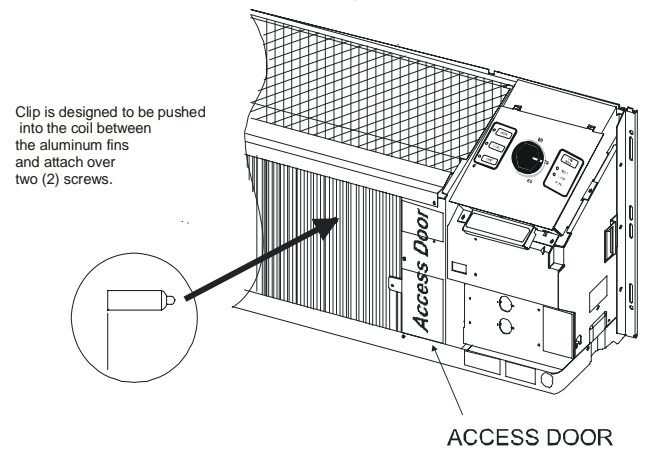
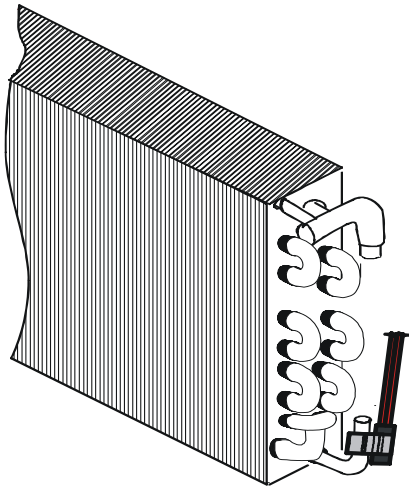

Figure 6
Figure 7
B. If the existing **Indoor Ambient Thermistor** (with the **BLACK** wires) was connected to the board by a plug-on connector, reconnect it to the new board on the **IAT** (black) terminals. If the existing Indoor Coil Thermistor was soldered to the previous board, install the new black thermistor per Figure 6 and connect as above.
C. If the existing **Indoor Coil Thermistor** (with the **RED** wires) was connected to the board by a plug-on connector, reconnect it to the new board on the **ICT** (red) terminals. If the previous board used indoor coil bi-metals, remove and discard the bi-metal devices. The access door will need to be removed on the indoor coil to gain access to the bi-metal. See Figure 6. The Indoor Coil Thermistor will need to clip on the vertical section of the 90-degree bend of the inlet line to the indoor coil. See Figure 7. Connect the Indoor Coil Thermistor to the board as noted above.